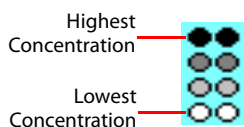

Figure 8-9: Concentration Representation in Dilution Series
3. Select a series operator, enter an operand, and select the appropriate dilution orientation (see Figure 8-9).